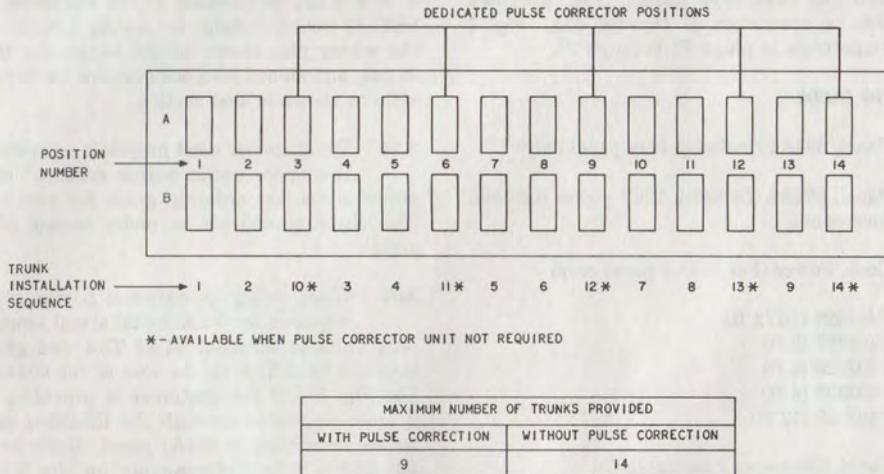

Fig. 3—Connector and Trunk Arrangement in 604A-Type Panel
trunks. Fig. 3 shows the connector and trunk arrangement in the 604A-type panel.
**3.06** When installing the IUs in the 604A-type panel, position the board in the guide grooves and slide the unit in until it is properly seated in the connector. Lower the designation strip and lock down to hold the IUs in place. The P-40V590 guide assembly has a screw mounted clip retainer that is used to secure the 4-inch 108A IUs in positions 10B, 11B, 13B, and 14B (lower connectors). The designation strip will hold the 4-inch IUs in the upper connectors. Refer to Fig. 3 for the